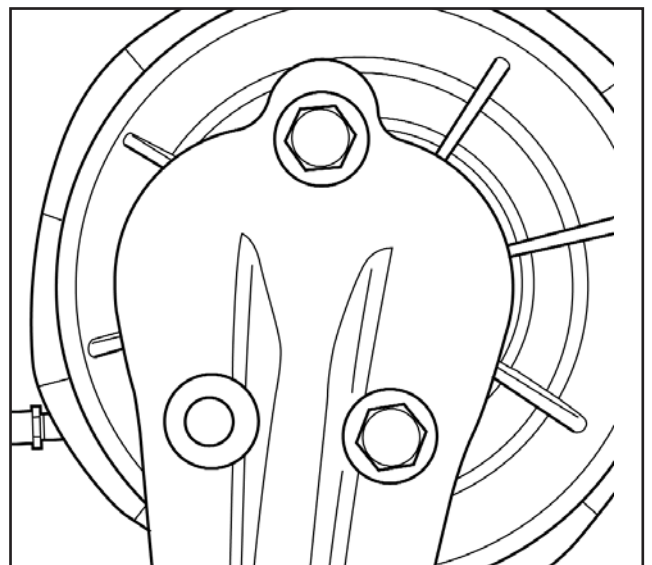

Fig 4.8
**T** 4. Align and locate the lower mounting bolt holes with the relevant holes in the trailing arm platform (Fig 4.8). Fit new retaining bolts and washer and tighten to a torque of 70Nm.